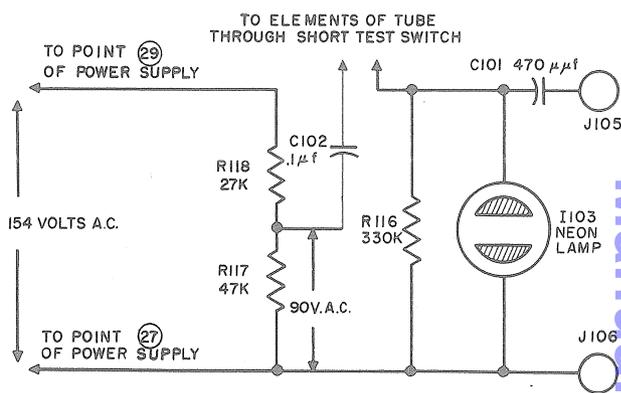

Figure 2-5.—Simplified Short Test Circuit.
5. SHORT TEST. (See Figure 2-5 & 2-16)
6. NOISE TEST. (See Figure 2-5)